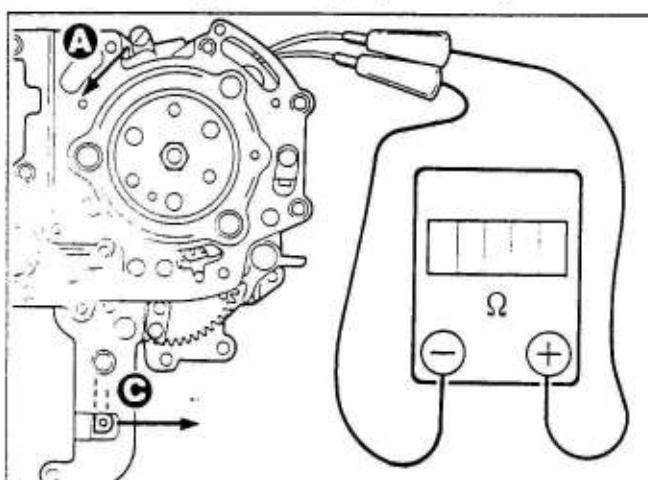

Fig.3
3. Connect the tester to the switch cord. (See Fig. 3.)